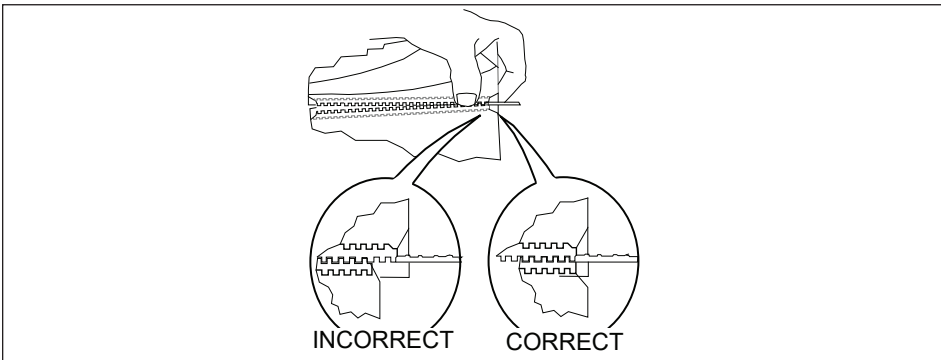

Figure 8. Aligning Belt Teeth
**NOTE:** Align the ends of the Belt Wrap properly (Figure 8) or the Belt Wrap may be damaged.